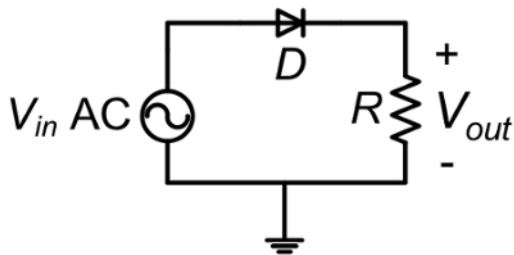
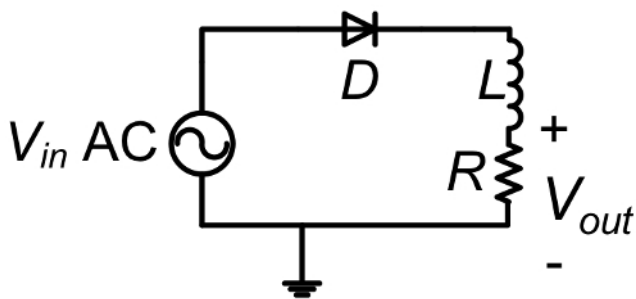
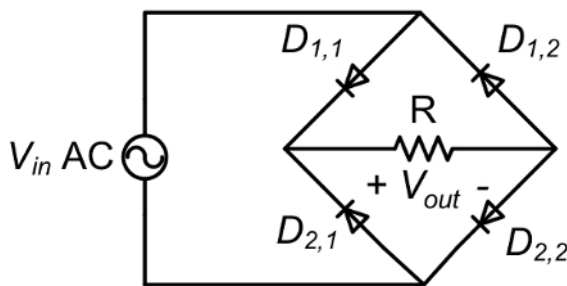
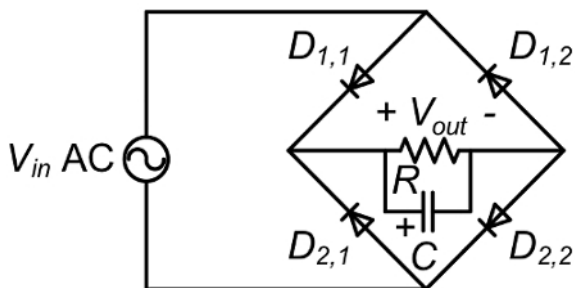

Figure 1: Half-wave rectifier with resistive load
Figure 2: Half-wave rectifier with R-L load
Figure 3. Full-wave rectifier with resistive load.
Figure 4. Full-wave rectifier with resistive load and capacitive filtering
Half-wave rectifiers (Fig. 1 and Fig. 2) only pass half of the AC input voltage to the output while they block the negative half by providing a zero-output voltage. Full-wave rectifiers (Fig. 3 and Fig. 4) flip the polarity of the negative half to become positive in addition to passing the positive half. Though the outputs of these rectifiers are not smooth, they are by definition DC outputs, as the current flows in only one direction. However, these output waveforms are typically filtered in order to smooth the resulting output voltage.
ATTENTION: During this experiment, do not touch any part of the circuit while energized. The AC source is only grounded as shown in Fig. 1 and 2 when the function generator is a source. Do NOT ground the VARIAC.
2. On the proto board, build the circuit shown in Fig.1. The diode (D) is 2A01G-T rated for 50 V and 2 A while the load resistor (R) is 51 Ω .
1. Using the same circuit in Fig. 1, connect a 4.7 mH inductor (L) in *series* with the resistive load as shown in Fig. 2.
2. Using the same circuit from Fig. 1, i.e. with the inductor disconnected and the resistor being the only load, connect the VARIAC output using the plug-banana cable.
1. On the proto board, build the circuit shown in Fig. 3.
1. Using the same circuit in Fig. 3, connect an electrolytic capacitor (C) in parallel with the resistive load as shown in Fig. 4.